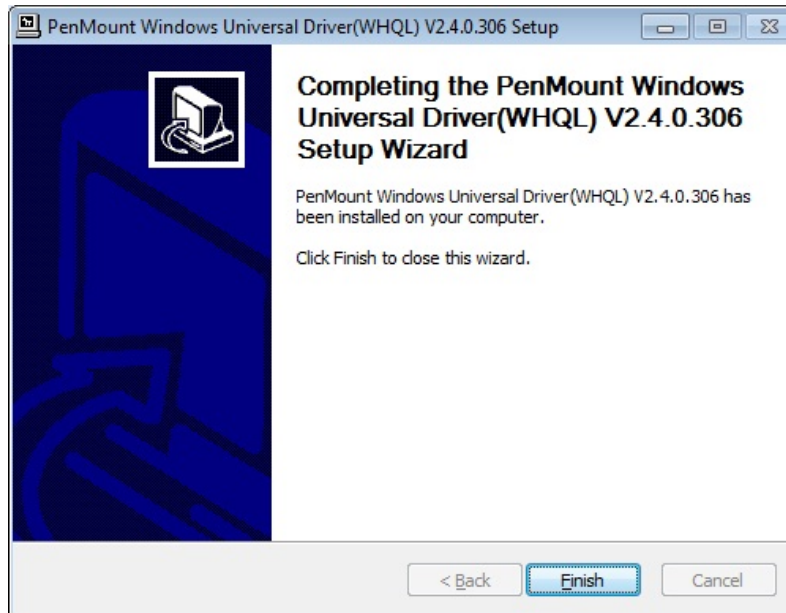

Figure 6-32: Touchscreen Driver Installation Finish Screen
Step 10: When the installation is complete, the screen in **Figure 6-32** appears. Click **Finish** to close the setup wizard.